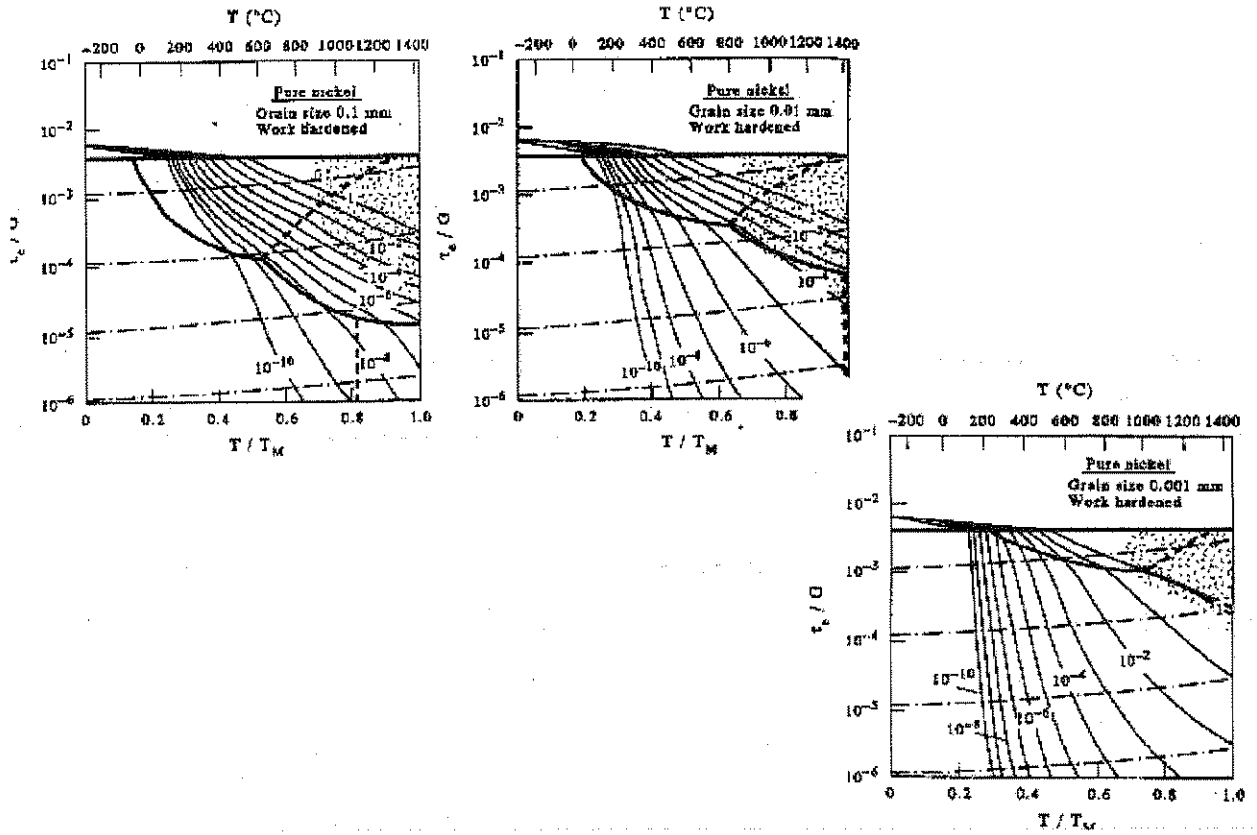

Figure 3 Deformation Mechanism Maps for pure nickel at 3 different grain sizes.
- d) Explain the effect of grain size on the creep rate of Nickel from the deformation mechanism maps shown in the Figure 3.